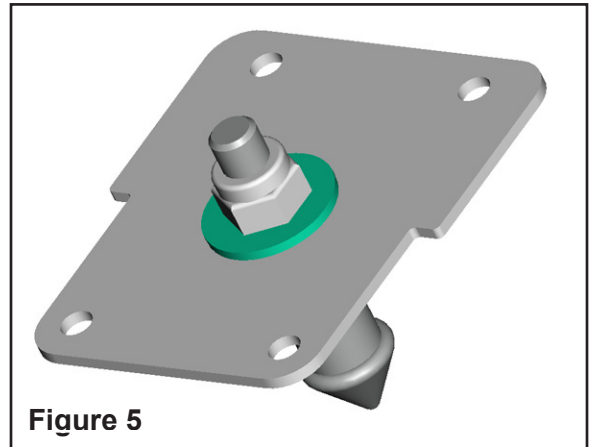

Figure 5
4. Install aluminum seat peg (PN 5910096) through seatbase mount plate (PN 5254689) using nut (PN 7542324) and washer (PN 7555734). Be sure the washer (PN 7555734) is installed between the mount plate and the nut. Torque nut to 15 ft. lbs. (20.3 Nm) using 3/4" open end wrench, 1/2" socket and torque wrench. Figure 5.